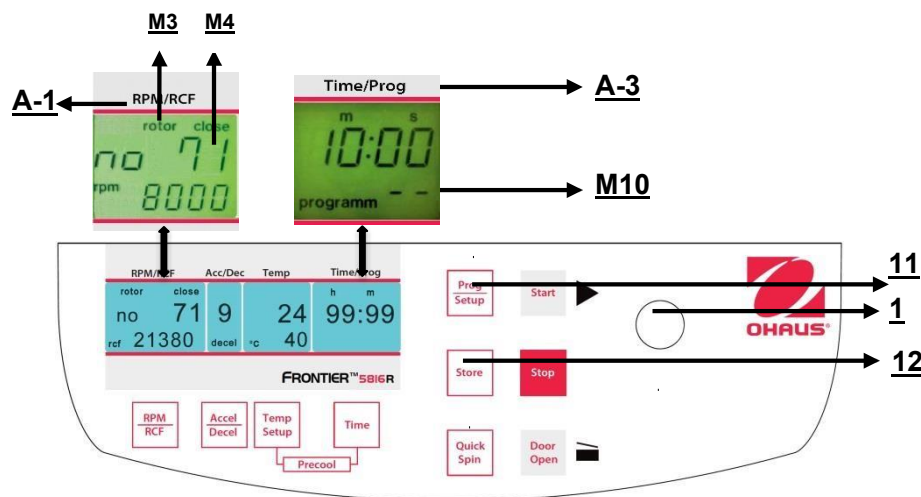

Figure. 28
To recall stored programs press the key **"Prog/Setup"** (11) (refer to figure 28) while the lid is already closed. Inside the display **"Time/Prog"** (A-3), **"programm --"**(M10) appears. The desired program number can be pre-selected with the adjusting knob (1).
To leave the program mode just press the key **"Prog/Setup"** (11) (refer to figure 28). Then inside the display **"Time/Prog"** the word **"programm"** appears.